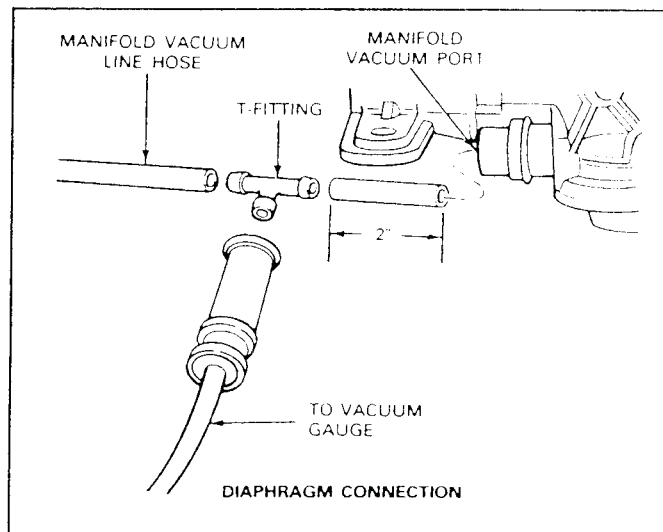

FIG. 5 Typical Vacuum Test Line Connections
- Attach a tachometer to the engine and a vacuum gauge, Rotunda Number 059-00008, or equivalent to the transmission vacuum line at the manifold vacuum port (Fig. 5).